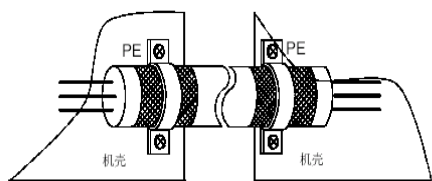
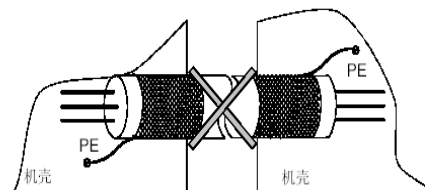

Fig. A.4 Correct shielded grounding
Fig. A.5 Incorrect shielded grounding
Normally control cable should be a shielded cable, and shielded metal mesh should be connected to metal cabinet by 360° ring type clamp fixed. Fig. A.4 shows the correct connection. Shielded connection shown in Fig. A.5 is wrong.
3) Motor cable must use shielded cable, and the best to have metal interlocked conduit, or double layers of metal mesh shielded cable. The 360° ring type clamp (such as Fig. A.4) must be used as metal cable clamp to fix the shielded layer of motor cable at inverter side to the back board of cabinet. There are two fixing locations: one is to close the inverter (the best is less than 15 cm), other location is to fix it on the ground block. 360° ring type connection should be taken to connect the motor metallic case when shielded layer of motor cable goes through the motor terminal box at motor side. If this type of connection is hard to do, the shielded layer can be braided, stretched and connected to the motor ground terminal. The stretched width should be greater than 1/5 of the braid